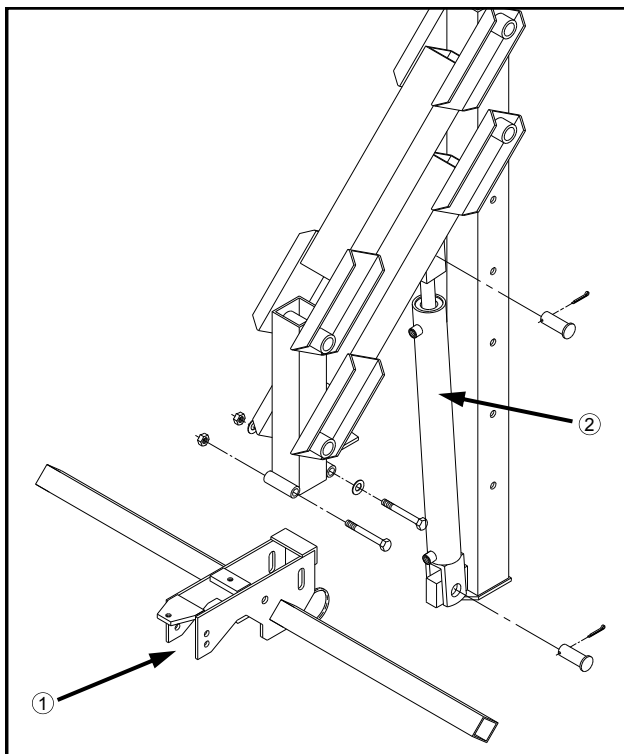

FIG 4.14
3. Attach the lift arm cylinders to the lift arm assemblies (fig. 4.14, item 2).
4. Attach the tool bar weldment to the lift arm assemblies (fig. 4.14, item 1).